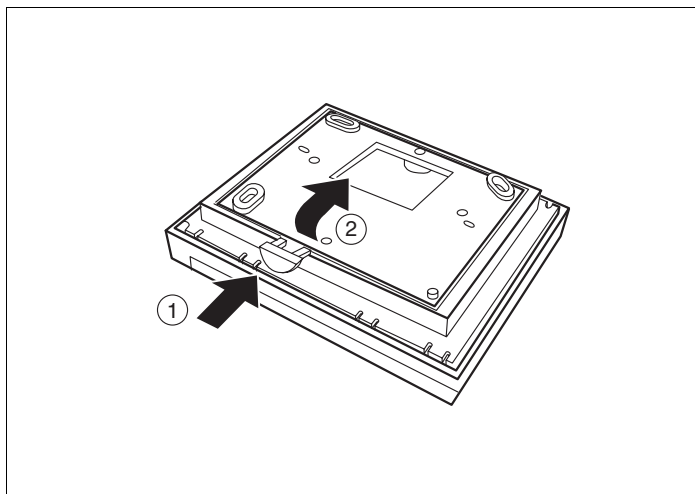

Fig. 2 Removing the room controller from the mounting plate
- Press the release button on the bottom of the mounting plate (Fig. 2, **step 1**).
- Remove the mounting plate in the direction shown by the arrow (Fig. 2, **step 2**).